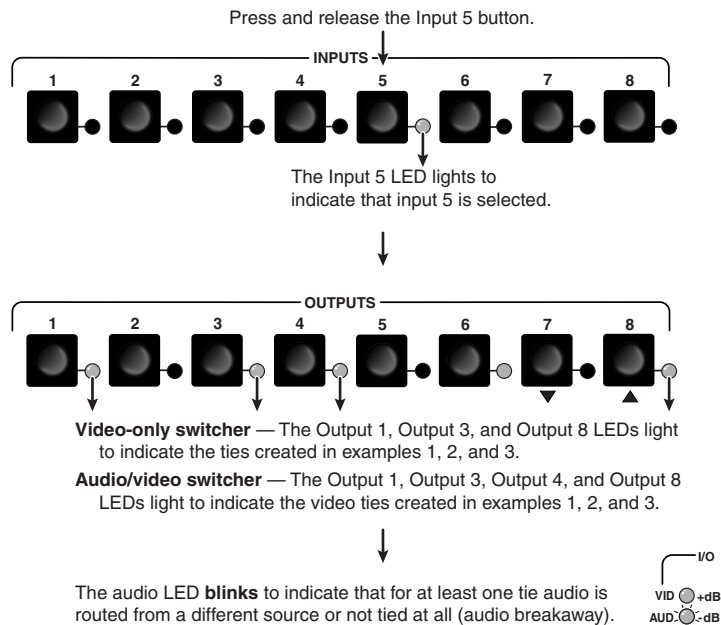

Figure 3-20 — Select an input
2. Press and release the Input 5 button (figure 3-20).